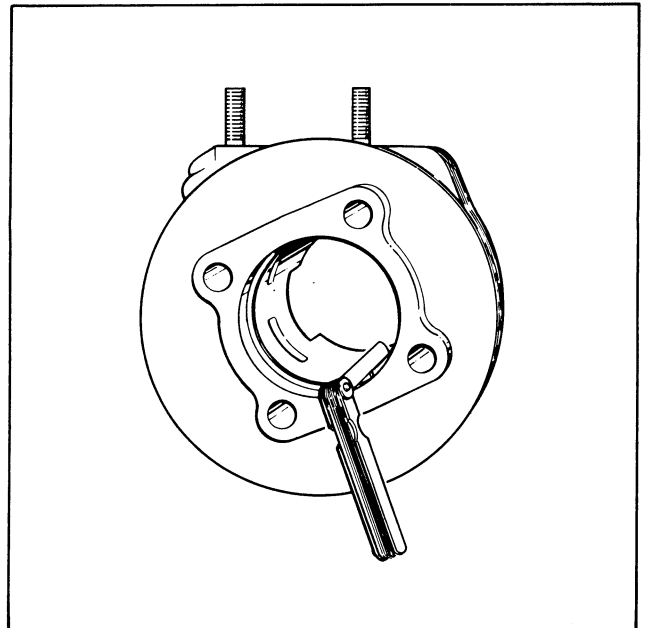

Figure 61 – Ring End Gap
- b. See Figure 61. Check the ring gap clearances as shown. Place a ring in the cylinder, 1/2 in. from the top. Ring gap should be .007-.023 in. If ring gap is less, ring ends could butt against each other when the ring expands. This will cause the rings to break, damaging the cylinder and piston. Ring gaps may be increased by carefully filing excess material from ring ends.